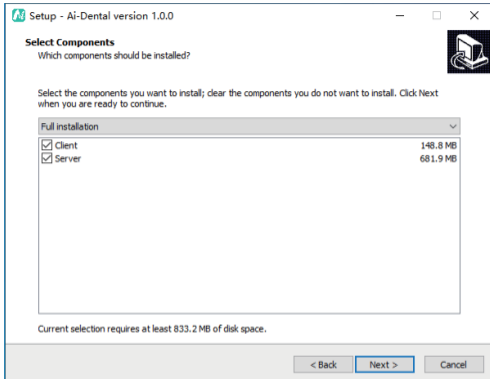

Figure 4
c) Select the component. The user selects the corresponding component as needed, and then click the "Next" button, as shown in Figure 4: